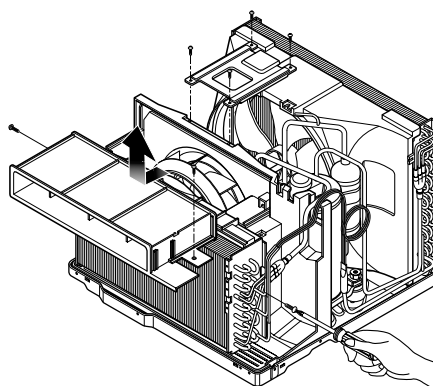

Figure 16
7. Remove the air guide upper. (See Figure 16)